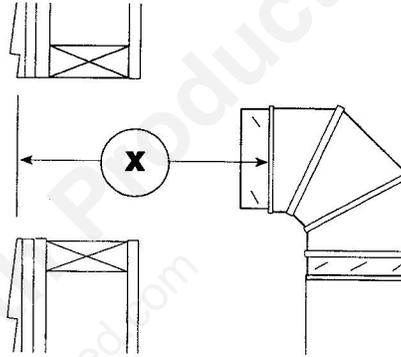

Figure 35. Measure the horizontal length.
7. Measure, and cut if necessary, the appropriate length of pipe section necessary to make the connection through the wall. Include a 2" overlap; i.e. from the elbow to the outside wall face plus 2" (or the distance required if installing a second 90° elbow). Fig. 35.